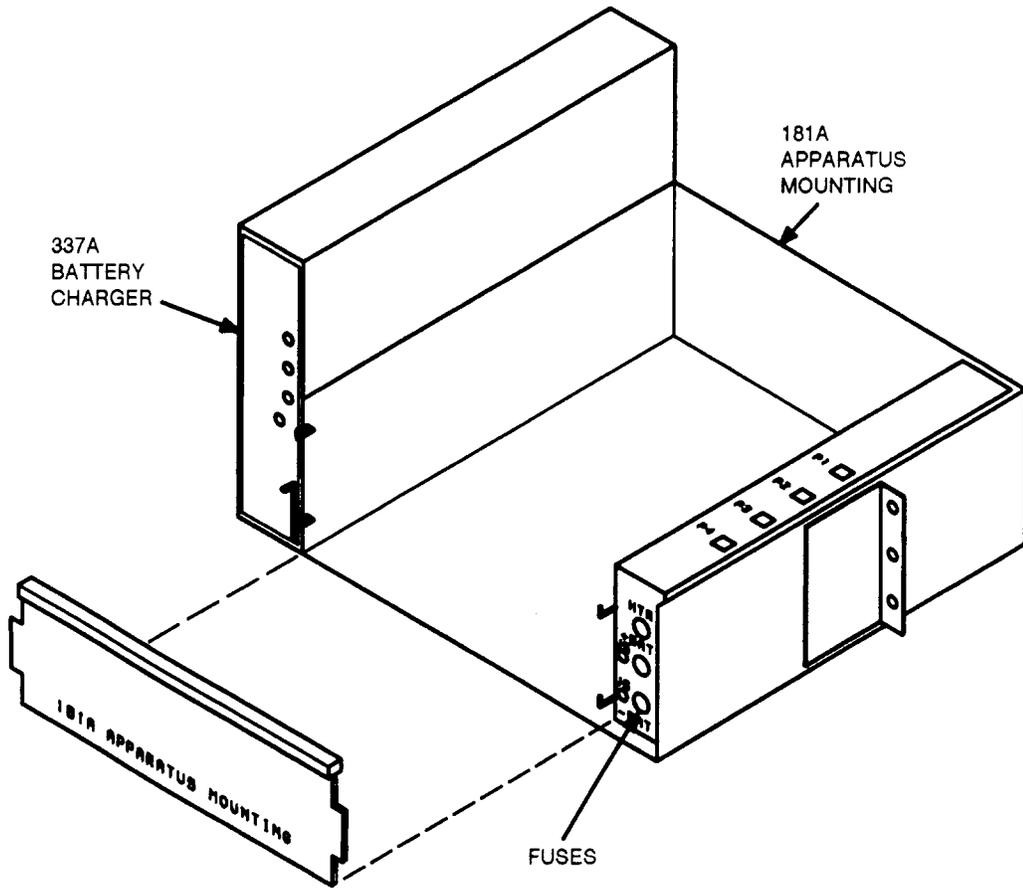

Figure 1 — Battery Shelf
4. At front of battery shelf remove front cover by lifting cover up and out (Figure 1).